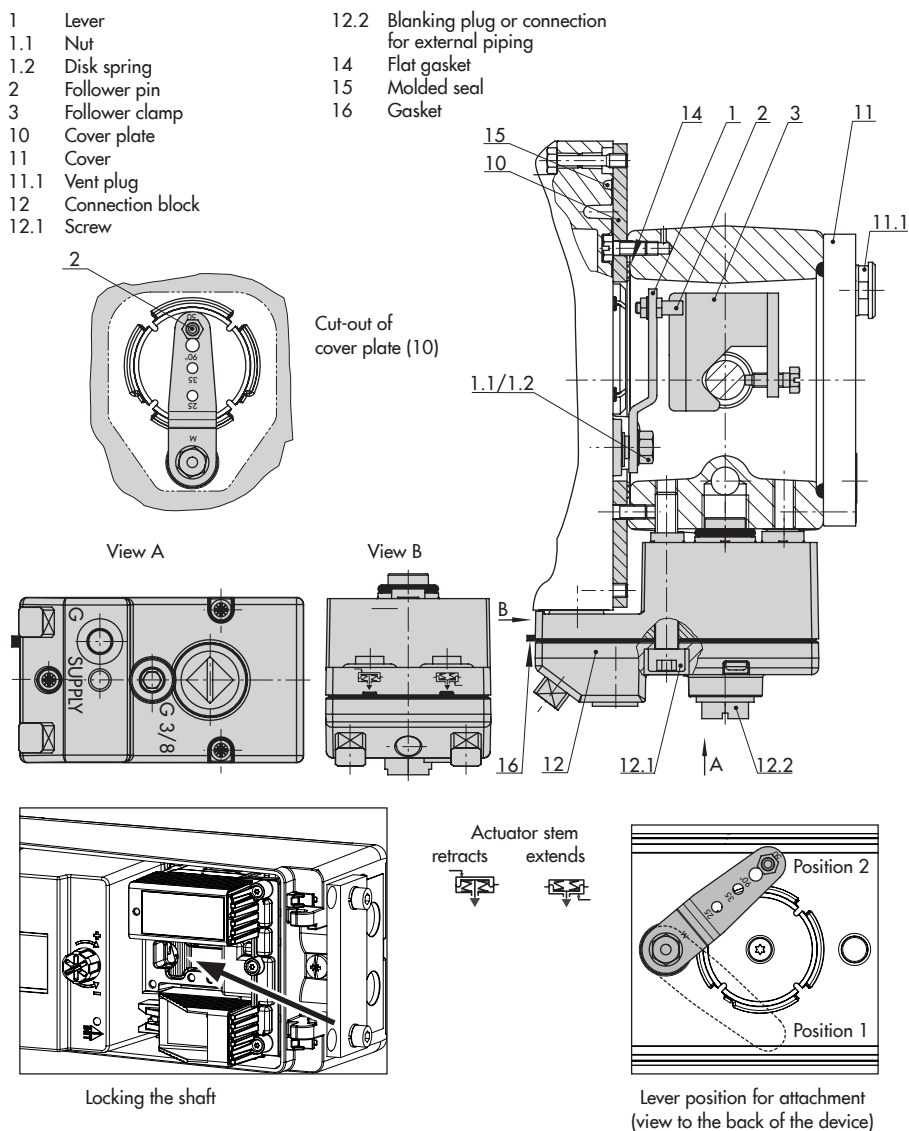

Fig. 5-15: Direct attachment to Type 3277 Actuator (240, 350, 355 and 750 cm²)
To lock the positioner shaft on mounting the positioner on the valve, insert a flat-blade screwdriver into the groove of the limit switch assembly and hold the shaft in position 2 (see Fig. 5-15).
- ➔ See Fig. 5-15
1. Place follower clamp (3) on the actuator stem, align it and screw tight so that the mounting screw is located in the groove of the actuator stem.
2. Mount cover plate (10) with narrow side of the cut-out pointing towards the signal pressure connection. Make sure that the glued-on flat gasket (14) points towards the actuator yoke.
3. Check the pin position of the follower pin (2) on M lever (1). Refer to travel tables for type of attachment. If necessary, change the pin position (see Chapter 5.2.1).
4. Insert molded seal (15) into the groove of the positioner housing.
5. Turn the lever counterclockwise until the spring force can be felt (position 1). Continue to turn the lever further to position 2 (see Fig. 5-15, bottom right).
6. Press the shaft lock (see Fig. 5-15, bottom left) to hold the lever in position 2.
9. Press the shaft lock of the prepared positioner (see Fig. 5-15, bottom left) and hold the lever in position 2.
10. Place positioner in such a manner that the follower pin (2) rests on the top of the follower clamp (3). The lever (1) must rest on the follower clamp with spring force.